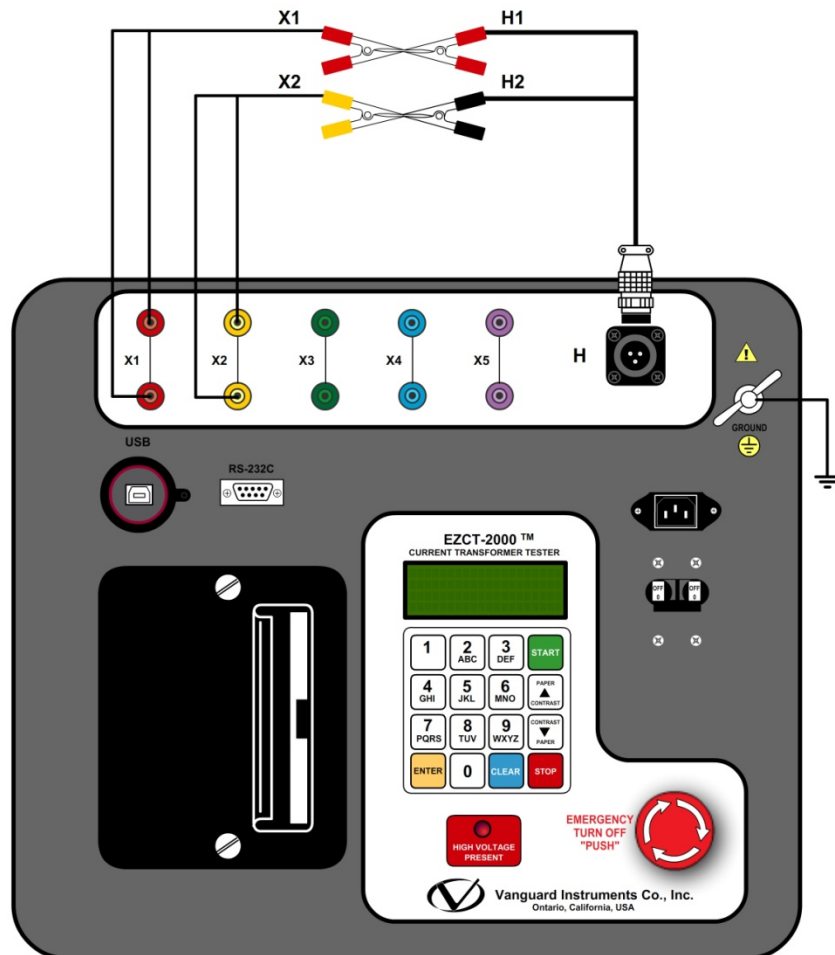

Figure 17. EZCT-2000 Turns Ratio Verification Test Connections
- Connect the X1 test lead to the H1 test lead as shown in Figure 17.
- Connect the X2 test lead to the H2 test lead as shown in Figure 17.